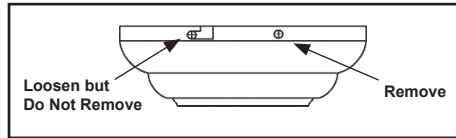

Figure 10
1. Remove the mounting bracket from the canopy by loosening the four screws on the top of the canopy. Remove the two non-slotted screws and loosen the slotted screws (Figure 10).